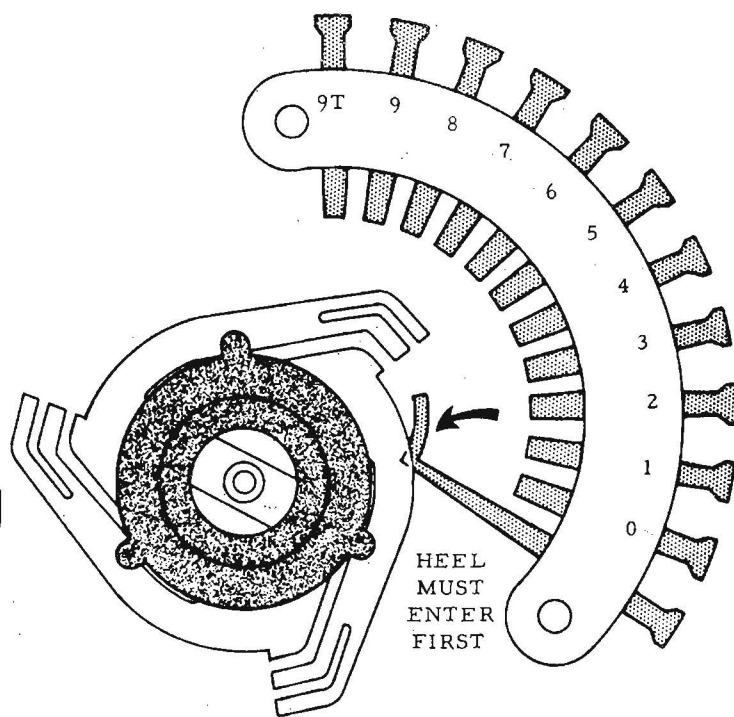

Figure 7. Rotor Assembly
12. Make certain that the wiper contacts of the new rotor are oriented to the same position as for removal, and slide the stator bank assembly toward the coil, frame and rotor assembly so that the "heel" of the stator arm contacts is inserted into the space between the rotor wiper contacts first. (See figure 7.)